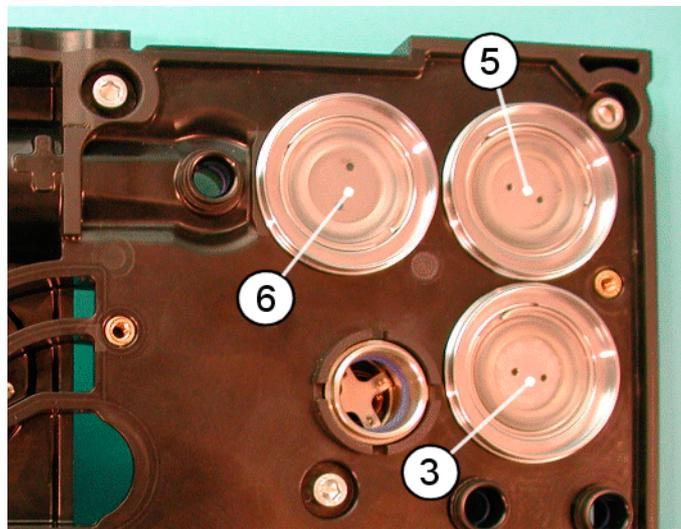

Figure 9 Flow (6), Spont (5), and Closed valve (3), old version
1. Remove the retaining ring and the washer underneath from the respective diaphragm mount (Figure 9).